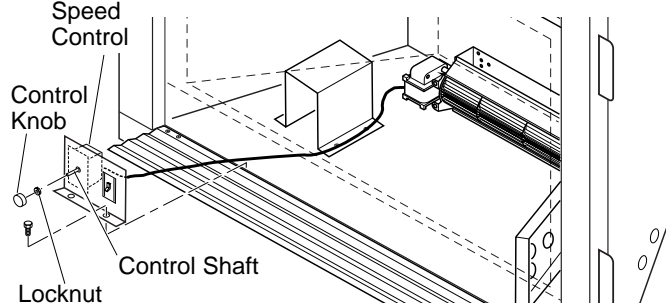

Figure 33 - Attaching Speed Control to Firebox
5. Place speed control against back of this plate and push the plastic control shaft through opening (see Figure 33, page 17).
6. While supporting speed control, secure control shaft with lock nut by pushing and turning lock nut with pliers clockwise until tight against the plate. Place control knob provided onto shaft (see Figure 33, page 17).